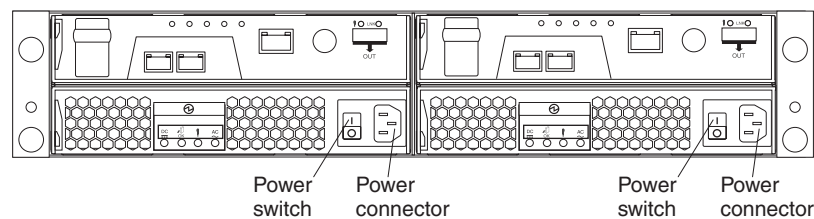

Figure 30. Power-supply switches and connectors for the DS3300
5. Turn on both ac power switches on the rear of the storage subsystem. Figure 30 shows the locations of the ac power switches on the DS3300.